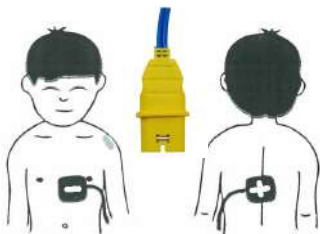

Fig. 5.4 Application sites for children less than 25 kg
1. Clean and dry the application points for the electrodes (see Fig. 5.4 Application sites for children less than 25 kg page 86). Only clean the skin by vigorously rubbing it with a dry cloth.
2. Apply one electrode on the left of the right nipple as illustrated in Fig. 5.4 Application sites for children less than 25 kg page 86
3. Apply the second electrode on the back on the same level as the chest electrode as illustrated in Fig. 5.4 Application sites for children less than 25 kg page 86.